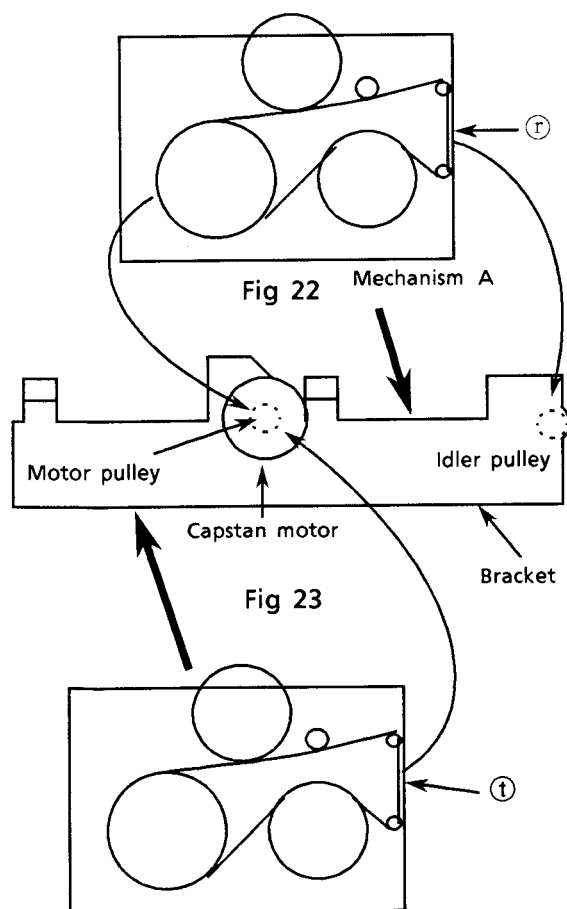

Fig 24 Mechanism B
4. Hang the part ⑦ to the Idler pulley.
5. Install the mechanism B installed the belt as shown in fig 24 to the bracket which is assembled with the mechanism A.
6. Hang the part ⑧ to the motor pulley using a tweezers and the like.